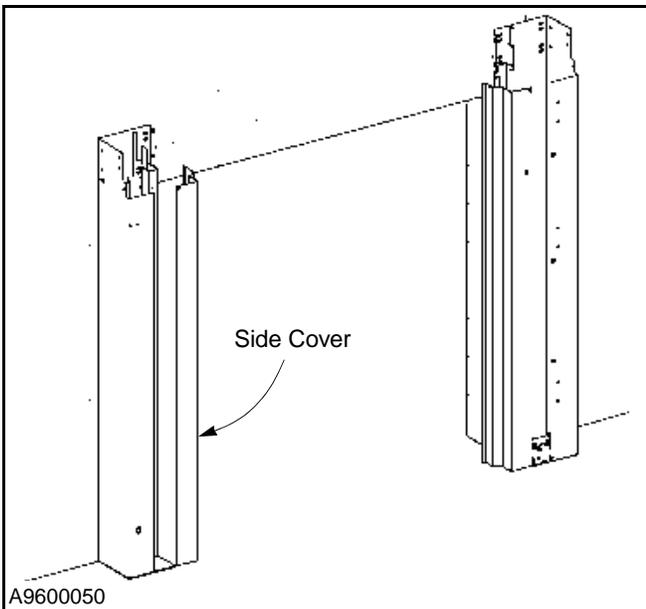

Figure 90
4. Attach the left- and right-hand side covers. (See Figure 90.)